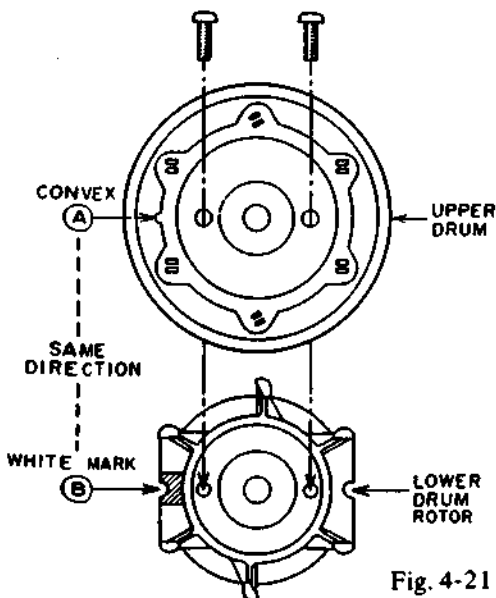

Fig. 4-21
Attach the UPPER DRUM to the LOWER DRUM ROTOR so that upper drum convex (A) and lower drum rotor's white mark are in the same direction as shown in Fig. 4-21.